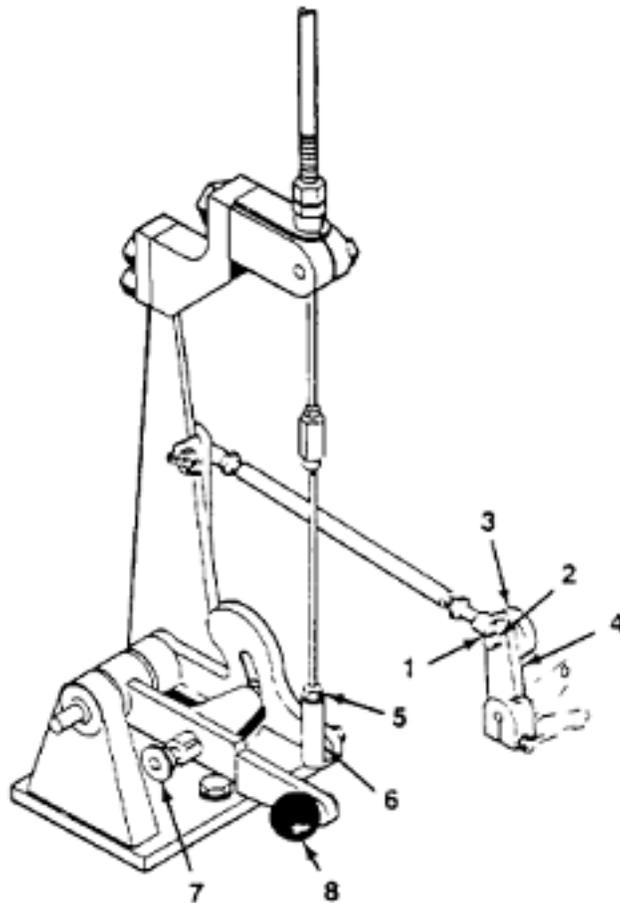

Figure 551-88L-2054_10
(1) Each propulsion unit consists of two engines connected by the power transfer unit. The propulsion unit is controlled by a single throttle control from the pilot house or from the engine room. Individual engines are controlled by individual throttle levers located on each propulsion unit. The throttle adjustment is made after setting the valves, timing the injectors, adjusting the governor, and adjusting the injector operating linkage. The propulsion unit throttle control is inter-locked with the reverse-gear control lever to prevent engagement or disengagement of the clutch until the throttle has been placed in the idle speed position.
(2) Adjust throttle linkage by the procedure listed below. Key numbers refer to Figure 551-88L-2054_11 unless otherwise noted.